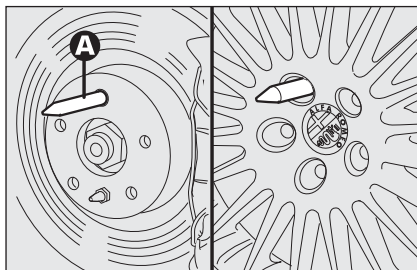

fig. 13
- tighten pin **A-fig. 13** in one of the holes of the wheel hub fastening bolts;
- loosen pin **A-fig. 13** and tighten the last fastening bolt;